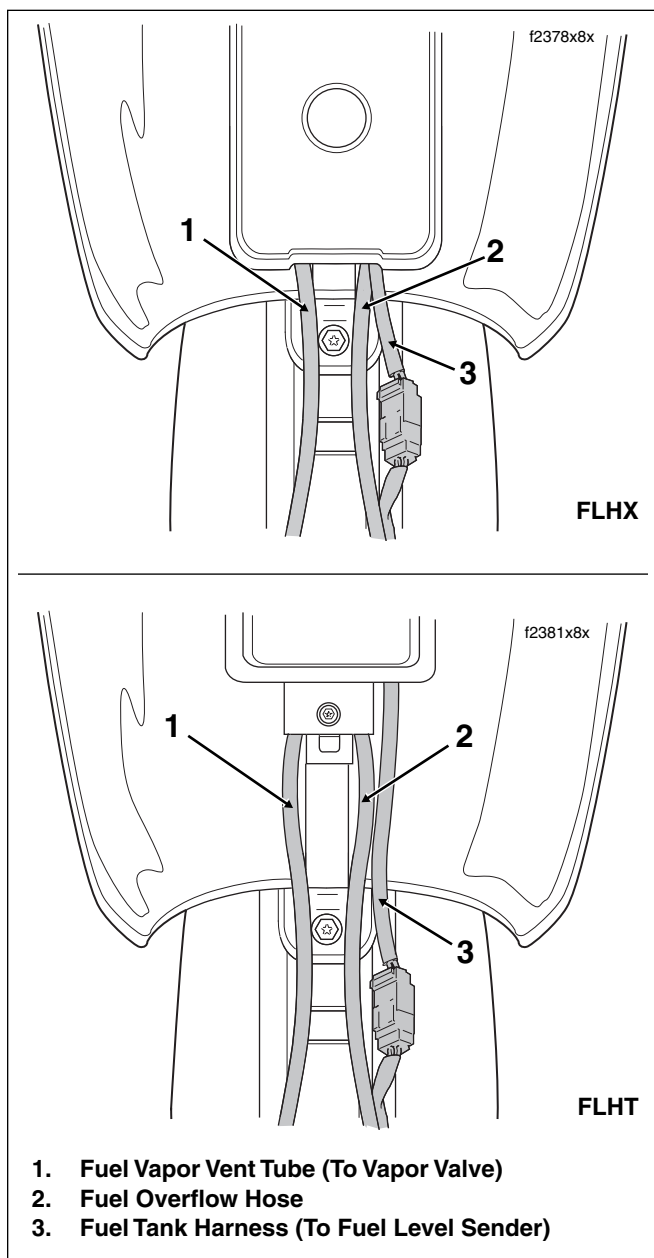

Figure 4-18. Console Cable/Hose Routing (FLHX, FLHT)
7. Remove filler cap. Exercising caution to avoid pinching harness, overflow hose and vent tube, position console on canopy as shown in Figure 4-18. Reinstall filler cap.
4. Remove filler cap. Exercising caution to avoid pinching harness, overflow hose and vent tube, position console on canopy as shown in Figure 4-18. Reinstall filler cap.